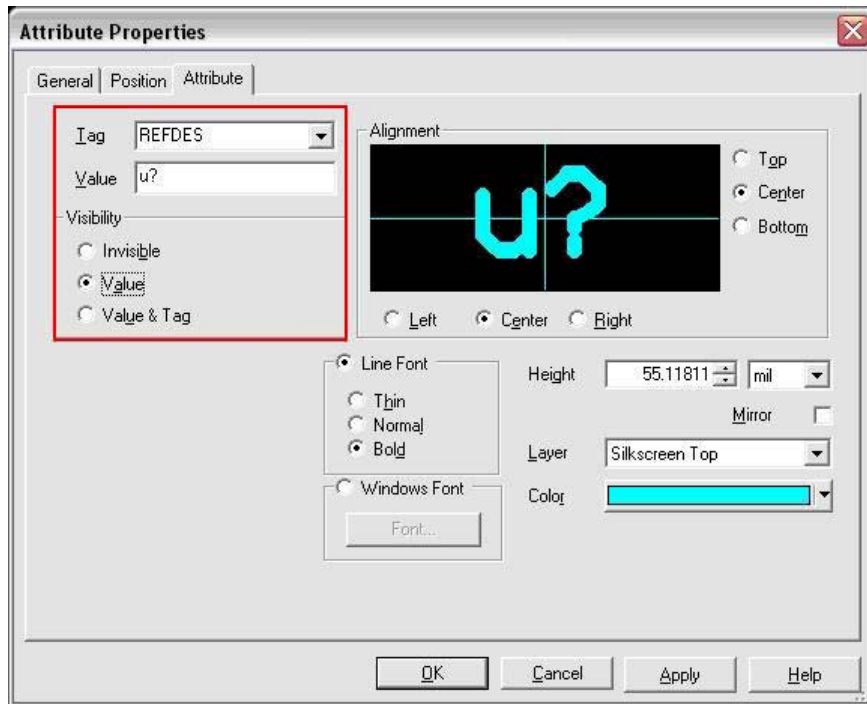

Figure 16 - REFDES Attribute Properties
e.) In the Value field set the REFDES tag to **U?** as in Figure 16 (in the red box) f.) Click on **OK** to apply changes.
- c.) Ultiboard, now in a drawing mode is prepared to draw a rectangle. Line up the mouse to the upper left hand point (5 mils from pin 1 as indicated by the ruler markers in Figure 16).